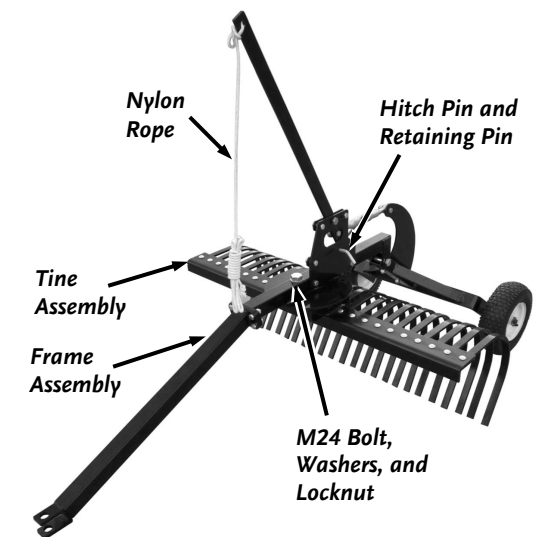

Figure 8
- Connect the Tine Assembly to the Frame Assembly using the M24 X 100 Bolt, Washers, and Locknut (**Figure 8**). Tighten the Hardware using two 36mm Wrenches. Do not over tighten; the Tine Assembly should be able to rotate freely.